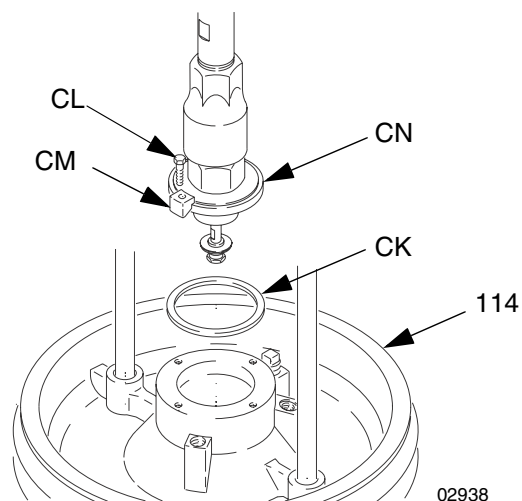

FIG. 8
3. Attach the motor to the mounting brackets (57) or mounting plate (CA) with the fasteners supplied (‡), as applicable.
4. Place the gasket (CK) from Mounting Kit 222776 on the ram plate (114). See FIG. 8. Loosen the mounting bracket setscrews (43), and carefully lower the pump onto the gasket and plate. Secure the pump's intake flange (CN) to the plate with the screws (CL) and lugs (CM) included in the mounting kit.